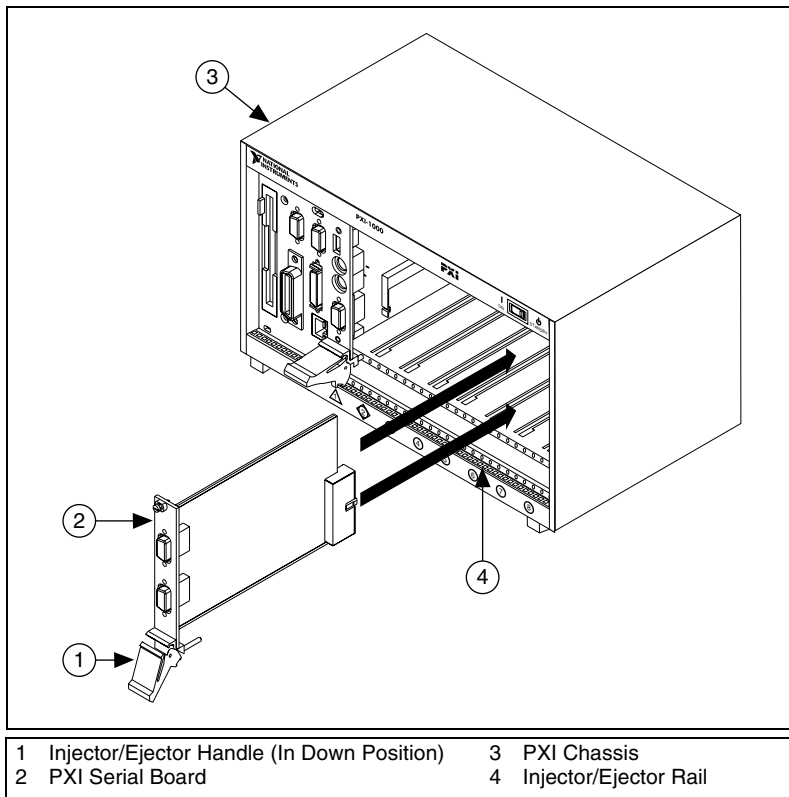

Figure 3-1. Installing the PXI Serial Board
5. Insert the PXI serial board into the 5 V slot. Use the injector/ejector handle to fully inject the device into place. Figure 3-1 shows how to install the PXI serial board into a PXI or CompactPCI chassis.